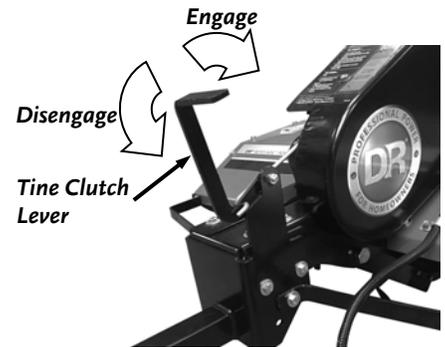

Figure 15
1. Push the Tine Clutch Lever towards the back of the machine to engage the Tines (Figure 15).
1. Pull the Tine Clutch Lever Forwards to disengage the Tines (Figure 15).